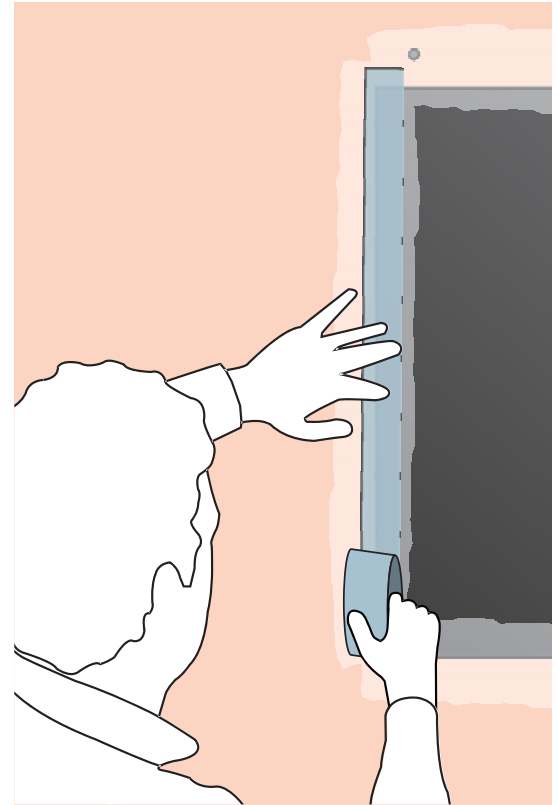

Figure 13.
3. Apply tape over the seams. See Figure 13.